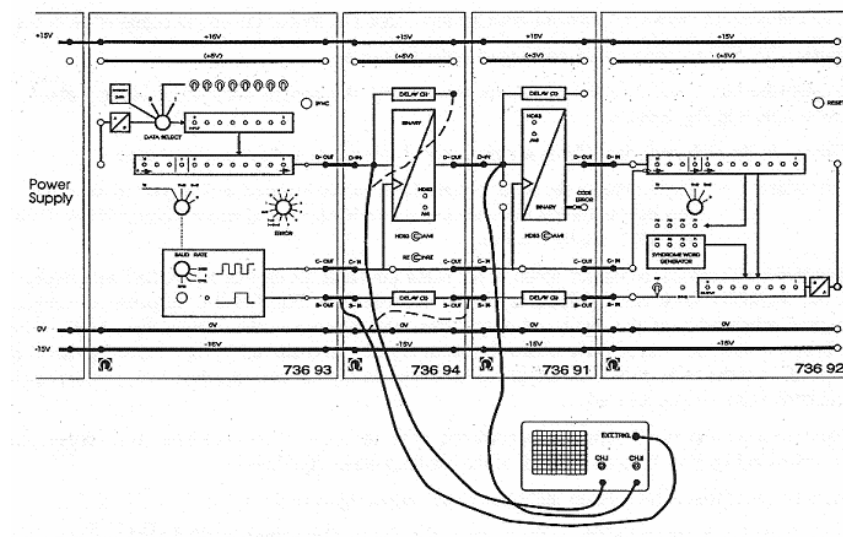
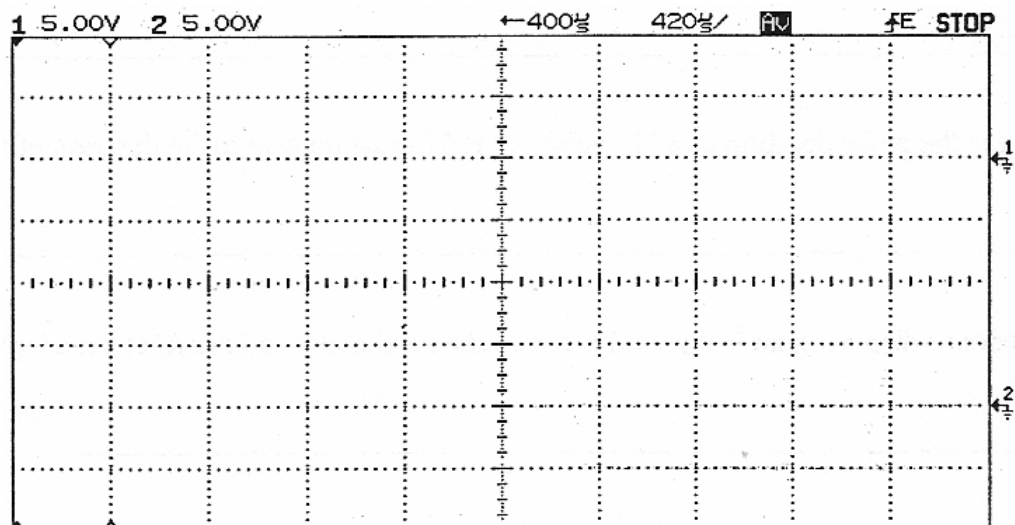

Figure 5-1: Experiment set-up for experiment 5.
Figure 5-3w: Above: coder input signal (delayed by 3 clock pulses)
- The oscilloscope is initially connected in accordance with the unbroken connection lines sketched in Figure 5-1.
- Now connect the oscilloscope accordance with the connections outlined with dashed lines as specified in Figure 5-1. Make a sketch of the oscillograph in Figure 5-3w.